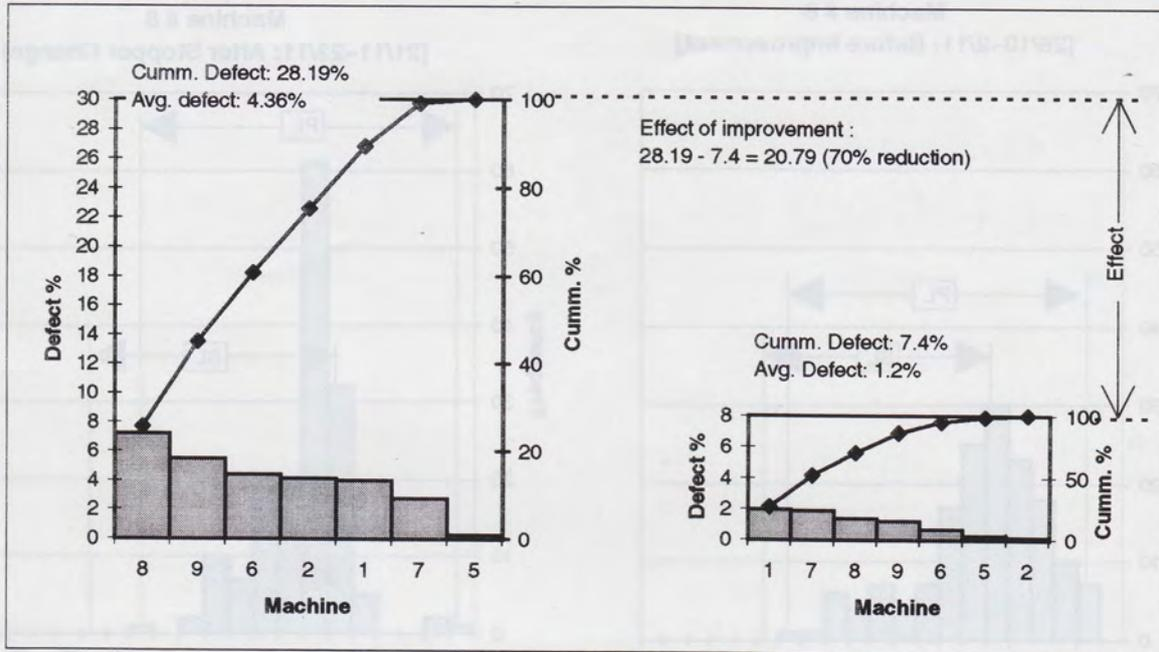

Figure 4 : Pareto Charts for Situation Before and After Improvement (Survey period : 4 weeks)
- e) After implementation of improvement measures on stoppers, daily data was collected of two weeks (23rd December to 3rd January, 1997) to gauge the result. Defects dropped down to 1.2%. [Refer to Figure 4 : Pareto Charts for Situation Before and After Improvement] The effect of improvement is quite obvious as seen in the comparative illustration of the pareto charts. The group then set a target of further lowering the defects to 1%.